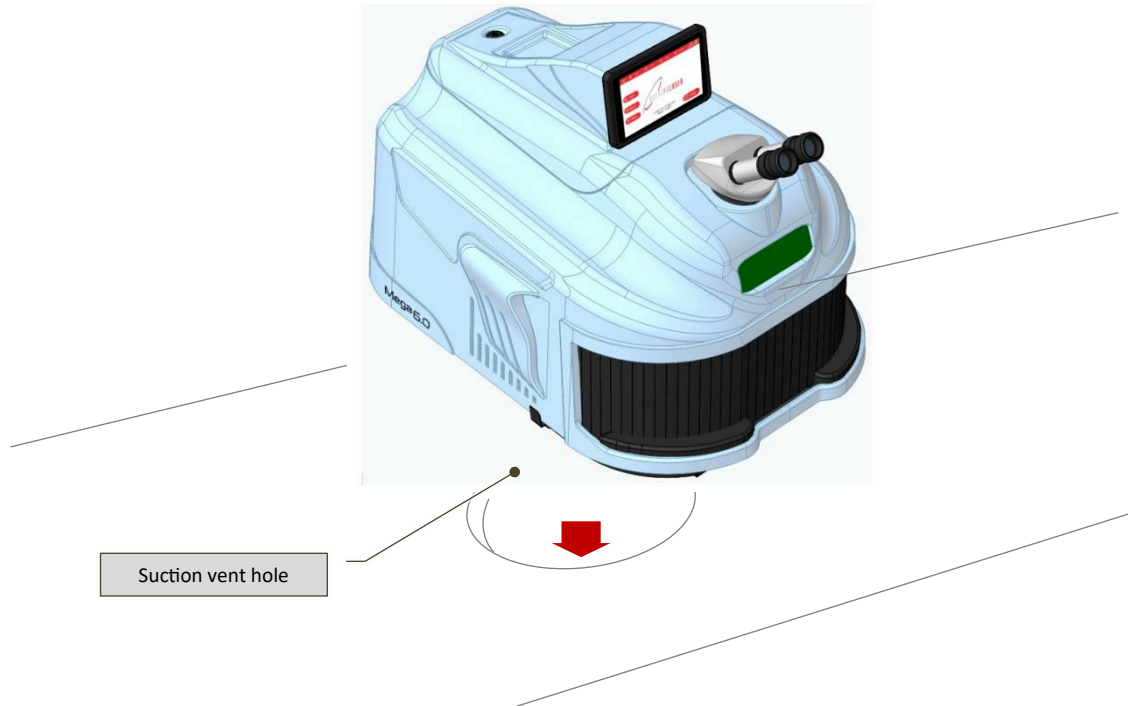
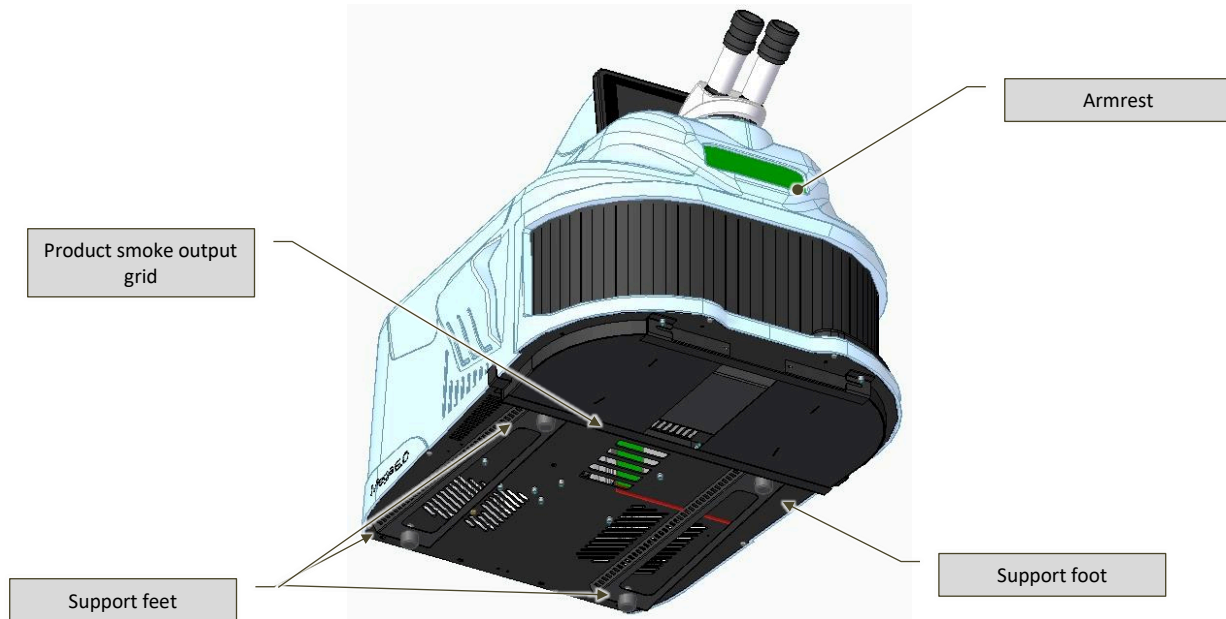

Fig. 6-22 – Ideal installation on worktable
Fig. 6-23 – View of machine support base
The work environment must feature an independent lighting system and an adequate aspiration system for fumes deriving from machine operations; in terms of the latter, the *ideal* configuration (to obtain a healthy environment and protect the operator's health) is one that features a suction vent (to be connected to an aspiration system via a duct – *these elements are not supplied with the machine*) located directly on the worktable, under the machine (as schematically illustrated in Fig. 6-22), and corresponding with the product smoke output grid (Fig. 6-23).
- It is leaning all four feet (Fig. 6-23);